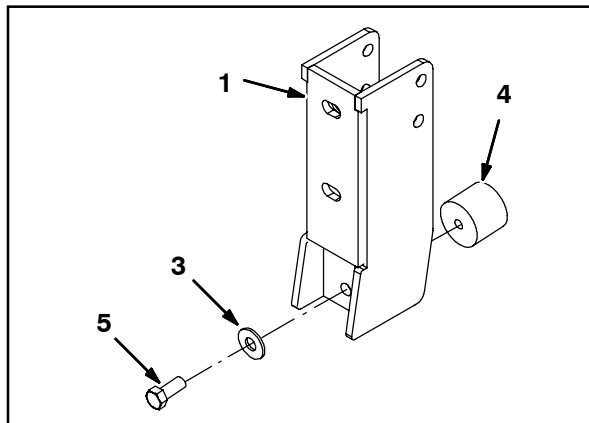

FIG. 2
2. Use a hex screw (5) and a flat washer (3) to install a bumper (4) onto each squeegee guard bracket (1). Refer to Fig. 2.